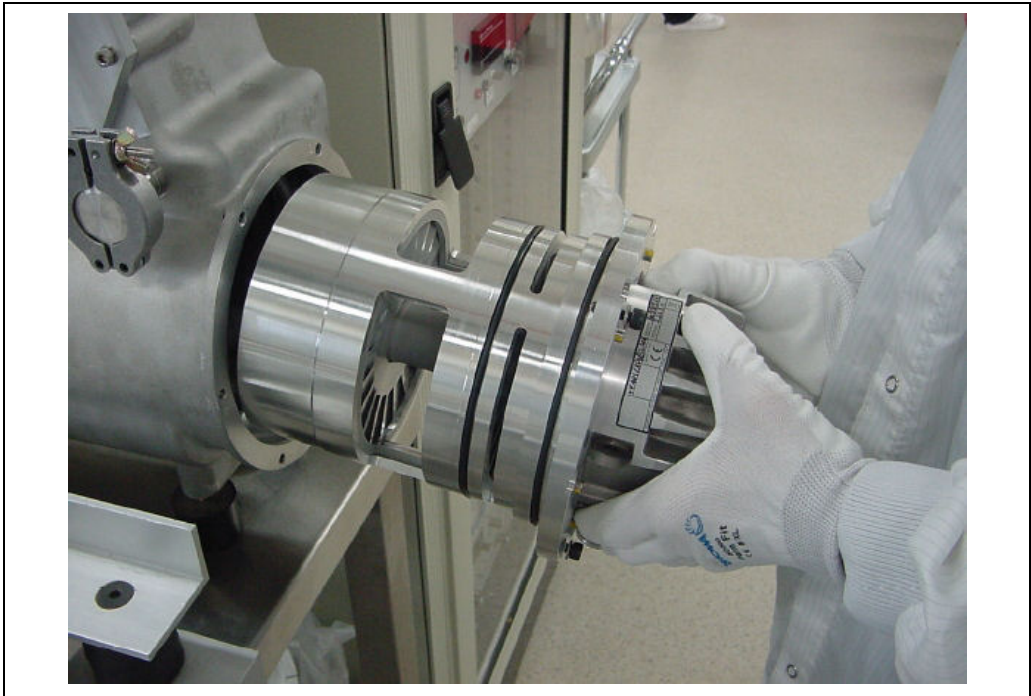

Figure 40
5. When the pump is free, pull it out of the chamber carefully (Fig. 40).